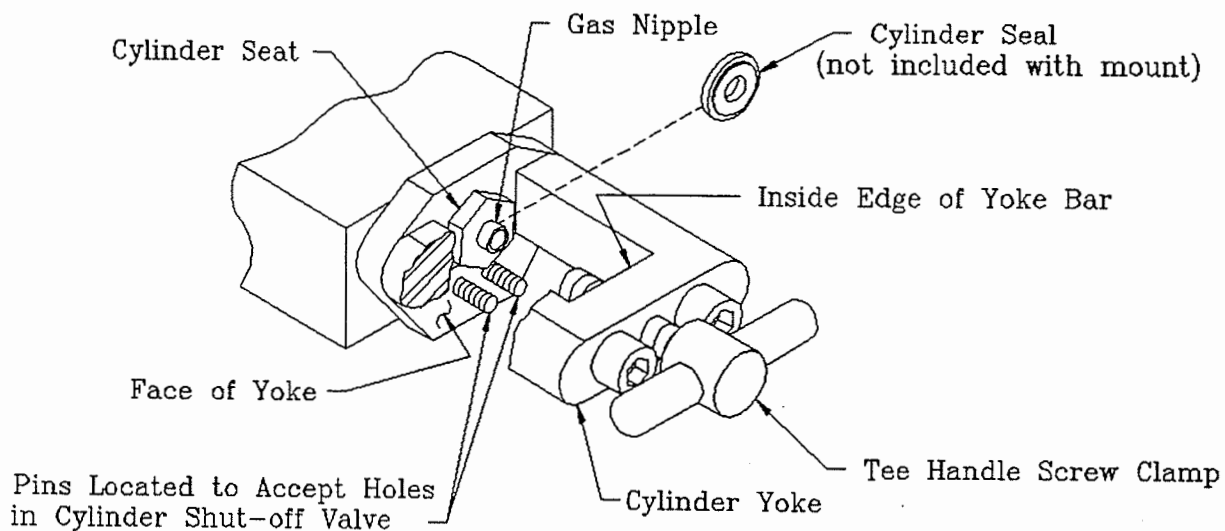

Figure 23
Pin index system is a method of pins accurately located on the face of the cylinder yoke and holes accurately located on the cylinder shut-off valve, assuring that cylinders of a specific gas will fit the cylinder yoke for that specific gas. See Figures 23 and 24.
3. Place the cylinder seal on the cylinder seat such that gas nipple goes through the hole in the center of the cylinder seal. See Figure 23.
4. Locate the "E" cylinder directly underneath the cylinder with the cylinder shut-off valve located towards the cylinder yoke and such that the face of the cylinder valve will face the face of the yoke. See Figure 23 and 24.